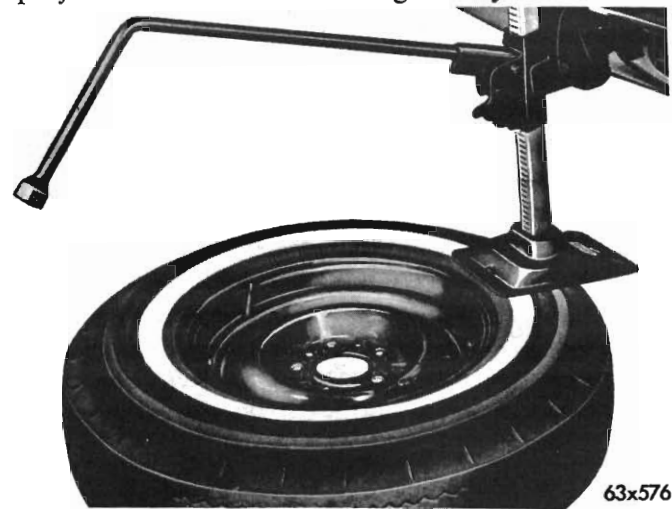

Fig. 4 – Removing tyre with car jack
(1) Remove the valve core and completely deflate the tyre.
(2) Carefully force both tyre beads over the safety raised rim section into the drop centre section. A Tyre Bead Breaking Tool should be used to force the tyre beads over the raised rim section. However, the car jack may be used as an alternate method. (See Fig. 4).
(3) Whilst holding one bead in the centre section, pry the other bead off the wheel. Then remove the remaining bead to complete the removal.